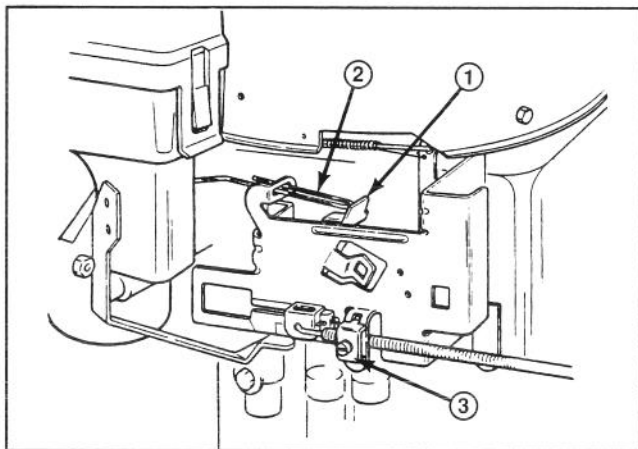

Figure 13
- B. Loosen the throttle cable clamp screw (Fig. 13) and move the control cable casing and wire until the throttle lever touches the choke link.